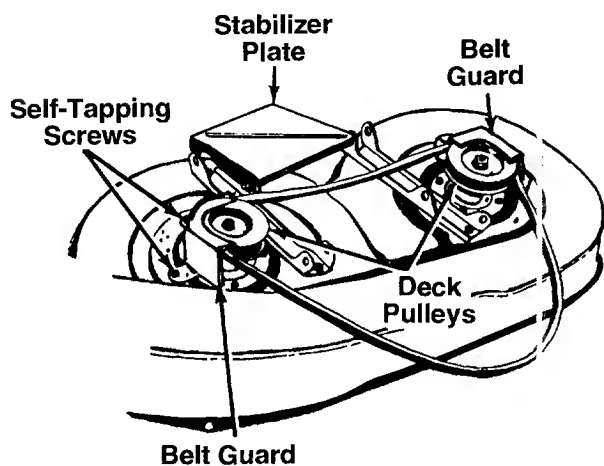

FIGURE 20.
- Remove the belt guards at each deck pulley by removing the self-tapping screws. See figure 20.